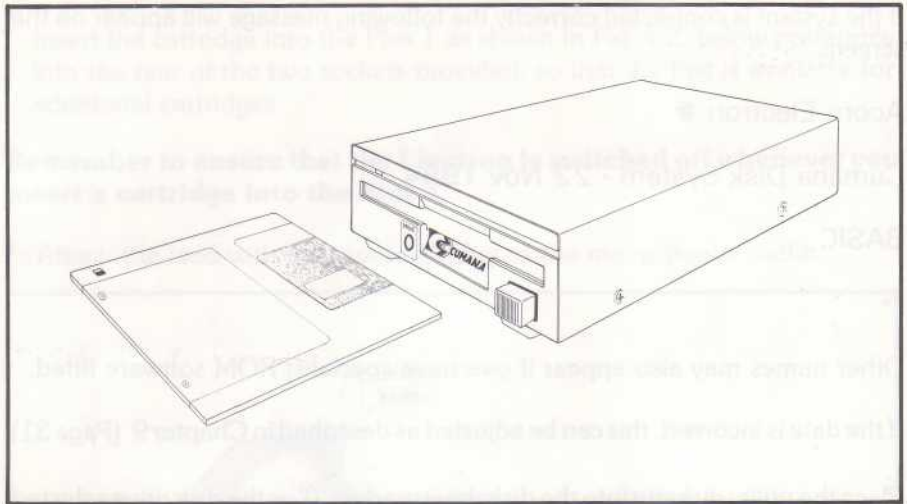

Fig. 4.4. Inserting a 3½" disk into the drive
Place the utility diskette into the disk drive marked '0' or the disk drive selected as drive 0 or master and close the door. Use Fig. 4.3. below or Fig. 4.4. overleaf for guidance.
- b) Push the diskette fully home until a click is heard as shown in Fig. 4.4. above.